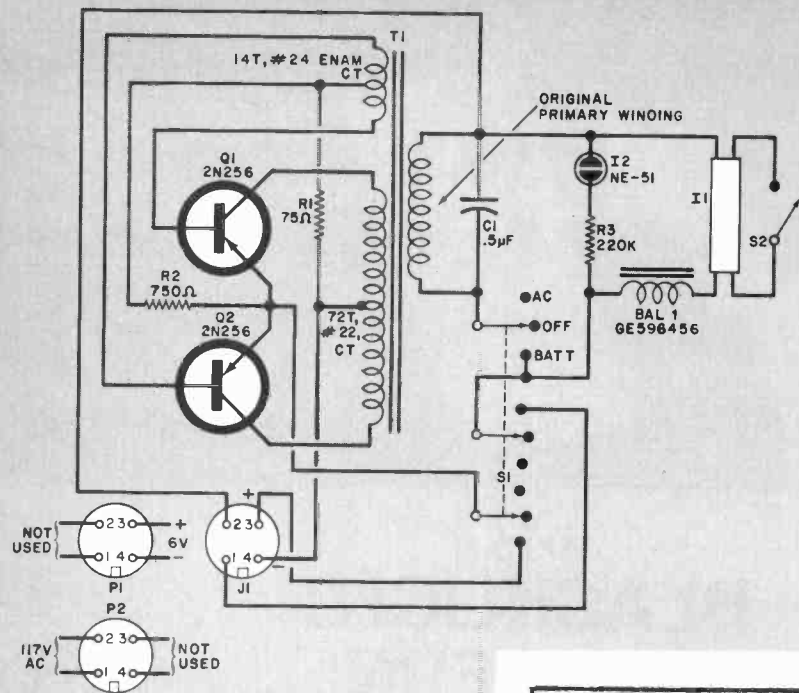

Fig. 1. Two-transistor power oscillator generates approximately 110 volts for ultraviolet lamp.
**Circuit Operation.** As shown in Fig. 1, transistors *Q1* and *Q2* are arranged as a power oscillator. Resistor *R1* determines the turn-on voltage and *R2* determines the frequency of oscillation. With the components specified, the frequency is in the low audio range, but high enough to minimize lamp flicker. Resistors *R1* and *R2* actually form a voltage divider to bias the transistors into conduction before oscillation starts.